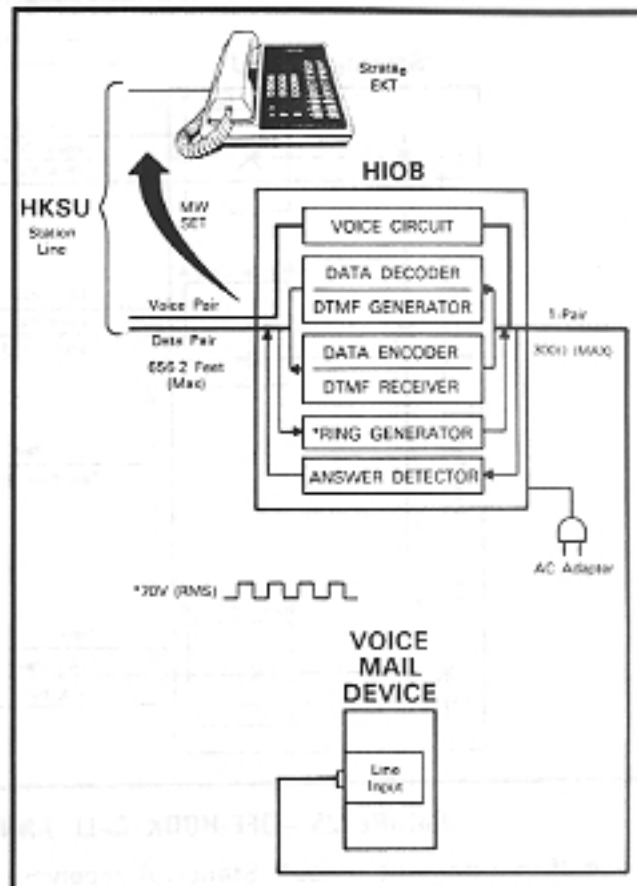

FIGURE 27—HI0B FUNCTIONAL BLOCK DIAGRAM
09.21 General: Provides a circuit interface with the system for external devices such as a voice mail machine, answering machine, standard telephone*, modem, etc. (see Figure 27). The HI0B circuit includes a DTMF generator, DTMF receiver, ring generator, answer detector and voice circuit (DTMF signal time from HI0B to device is fixed at 160 ms). Table A indicates available station lines and system capacities.
This procedure ensures that the HIOB connections and circuits are functioning (see Figure 27). If the peripheral device is a voice mail unit or similar device, more detailed testing is required. Since this testing varies between devices, verify the device's functions per the manufacturer's documentation.